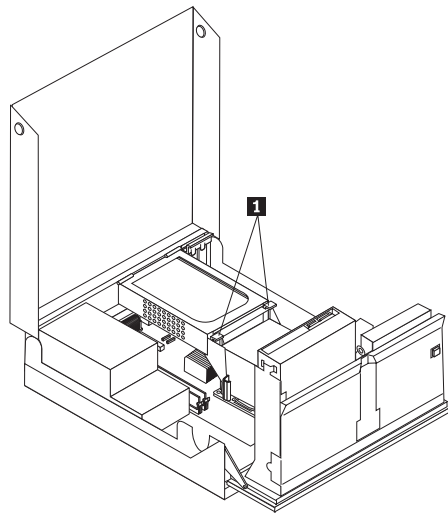

Figure 22. Accessing the hard drive
2. Locate the hard disk drive. See Figure 22.